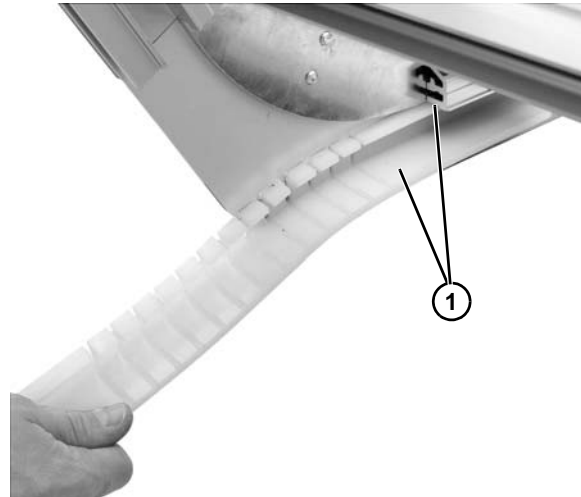

**Figure 7**
2. Attach upper knuckle (**Figure 7, item 1**) to frame (**Figure 7, item 2**) with socket head screws (**Figure 7, item 3**). Repeat on other side.